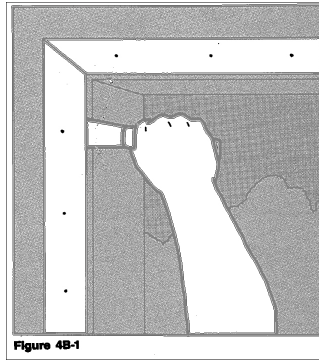

Figure 4B-1
4. Set the blade of the utility knife into the seam near one of the nails holding any one of the boards. Gently working the knife back and forth, make a gap between the board and the door jamb. Repeat this action near all the nails on the trim until trim is loosened from the jamb. (Figure 4B-1).